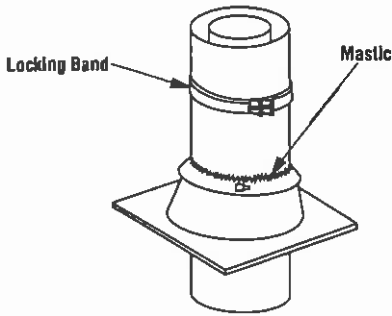

Figure 31
**Step 8.** The standard Superior roof flashing assemblies include a storm collar. Slide storm collar over outer chimney, align with top surface of flashing, insert tab in slot, pull tight and bend tab back over slot. Seal storm collar to outer chimney with roof caulking or mastic around entire circumference of pipe. Also add extra roof caulking to the tab/slot area to seal completely against water penetration (Figure 31). Check all joints very carefully to ensure no water intrusion can take place.
**Step 9.** Superior locking bands, Model LB, may be required if the chimney extends too high above the roof flashing. As a general rule, if the chimney extends more than 6' (1.8 m) above the roof flashing, the use of locking bands is advisable to strengthen the chimney assembly. Align the locking band at the chimney joint. Locking bands wrap around pipe joints equally covering the joints of both pipe sections. Use nut provided and TIGHTEN snugly. Do not over-tighten as this might damage chimney section (Figure 31)